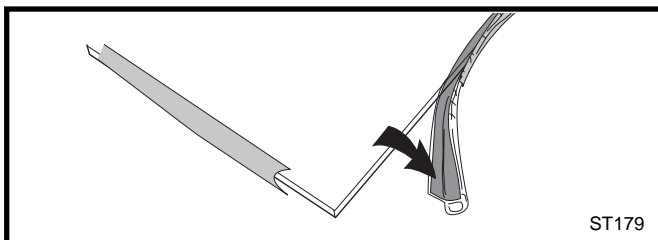

Fig. 79 Wrap the gasket material around the outside edge of the glass.
3. Starting on a long edge, remove about 6" of the protective paper strip and apply the flat adhesive face of the gasket around the outside-facing edge of the panel. Continue around the panel, applying about 6" at a time and being careful to not stretch the material. Do not overlap the gasket ends. (Fig. 79)